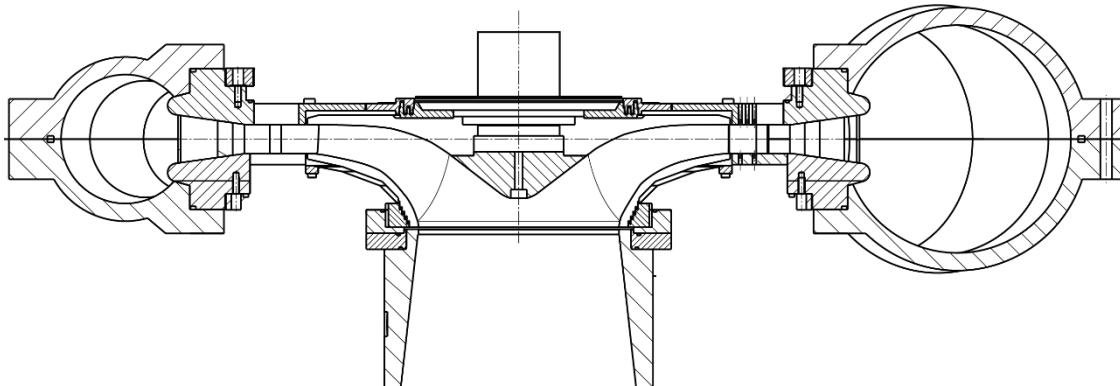

Figure 1: Cutview of the reversible pump-turbine
3) In Figure 1, identify the components of the reversible pump-turbine listed in Table 1.